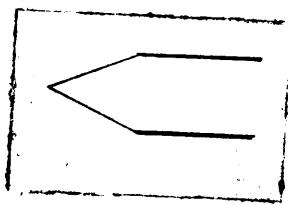

Figure 3.
5. Allow the tool to cool, then shape the opposite end. The opposite end is shaped differently from the flat end in that both sides are tapered the same, as shown in Figure 3. Hammer several blows on one side then reverse sides and do the same.